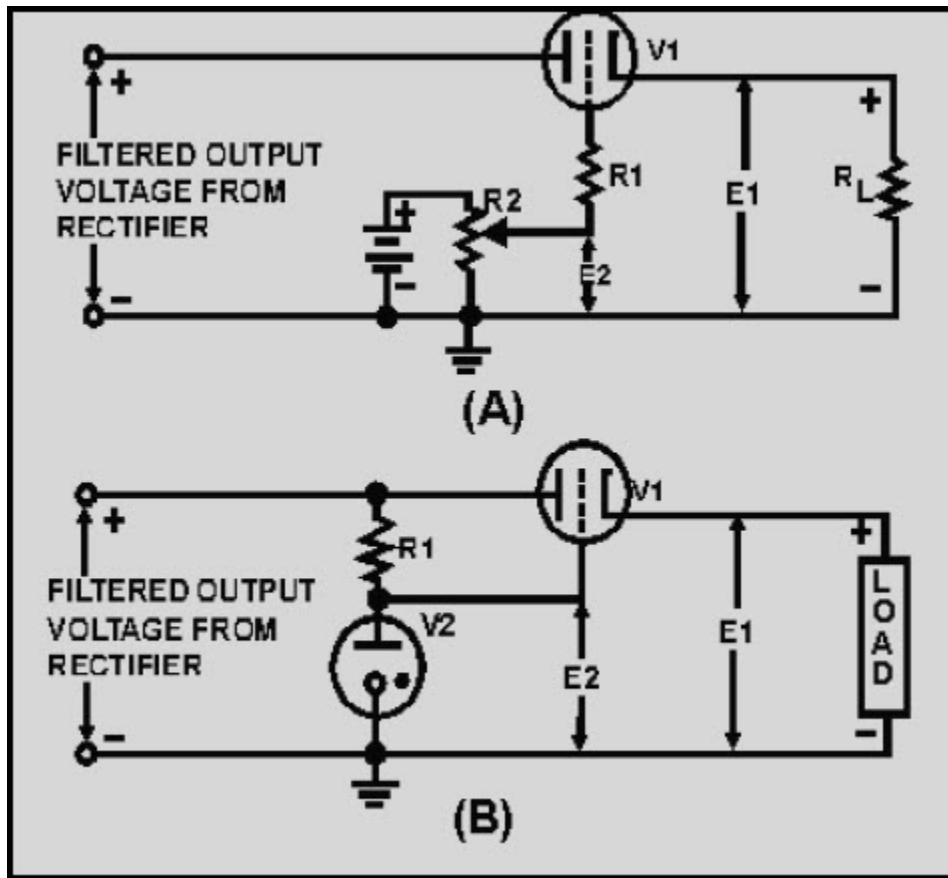

Figure 3-48 Electron tube voltage regulator using a battery for the fixed bias
Refer to figure 3-48, view (A). The resistance of V1 is established initially by the bias on the tube. Assume that the voltage across the load is at the desired value. Then the cathode is positive with respect to ground by some voltage (E_L). The grid can be made positive relative to ground by a voltage (E_2) that is less than E_1 . The potentiometer R2 is adjusted until the bias (grid-to-cathode voltage), which is $E_2 - E_1$, is sufficient to allow V1 to pass a current equal to the desired load current. With this bias, the resistance of V1 is established at the proper value to reduce the rectifier output voltage to the desired load voltage.